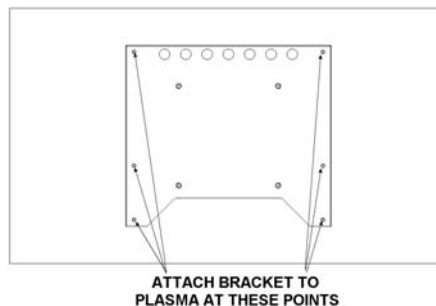

Figure 3
2. Place 6 nylon spacers on plasma over mounting threads in plasma (See Figures 3 & 4).
3. Place plasma bracket on plasma with bent lip towards the plasma (See Figures 3 & 4).
4. Insert M8 bolts and tighten-ensuring not to over tighten (See Figures 3 & 4).